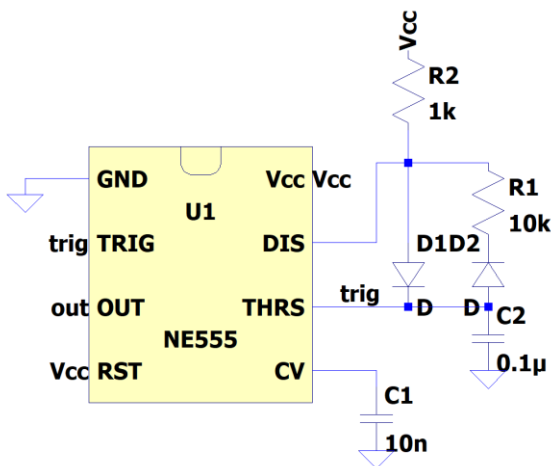
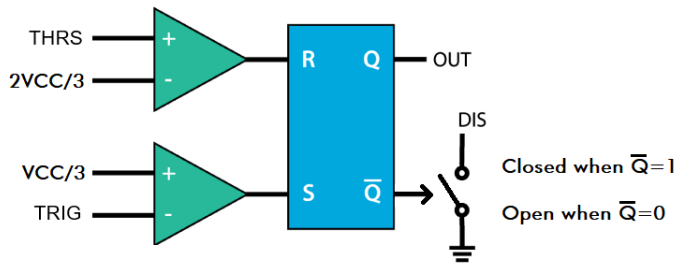
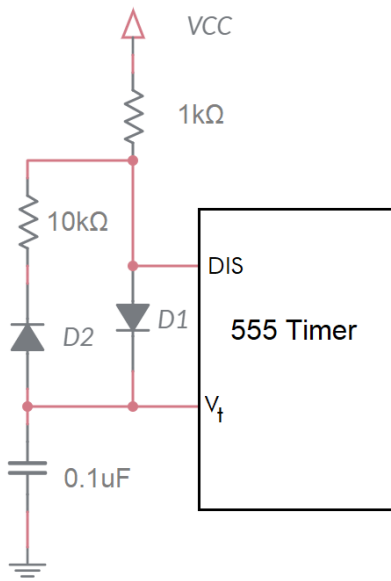
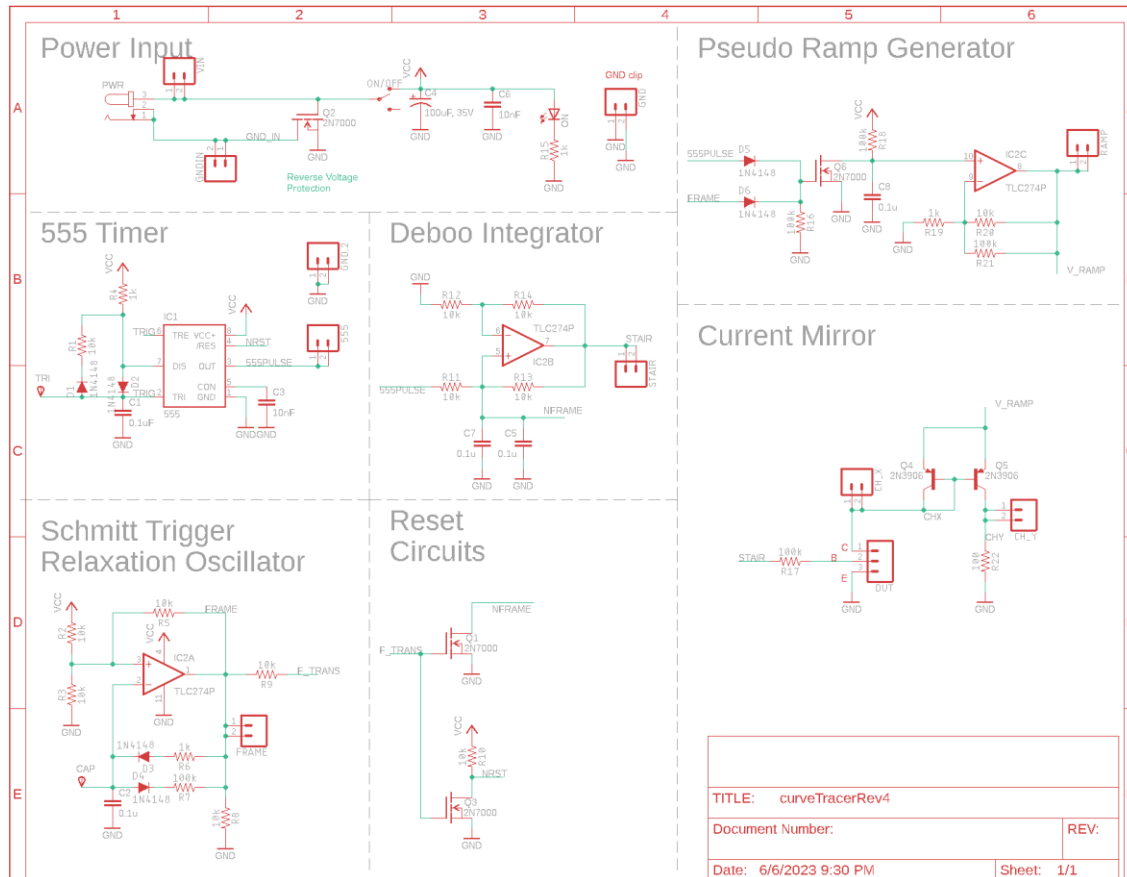

Figure 1: The output of the 555 Timer oscillates with a predictable period and duty cycle. Schematic drawn in LTspice.
Figure 2: A highly simplified rendering of a 555 Timer's internals.
Figure 4: The circuit in Figure 1 with the 555 Timer replaced with the two signals examined in Figure 3.
Figure 8: The schematic for the BJT curve tracer.
We will start by examining the behavior of today's circuit and then use our understanding of the circuit to quantify the behavior of the circuit. The circuit shown Figure 1 is built around the 555 Timer, a chip seen since the early 1970s. Its use is now limited to niche applications; it is not something you are likely to use much in industry. That said, an analysis of the circuit Figure 1 will allow us to practice valuable skills.
In order to analyze the circuit in Figure 1, you first need to understand the internal operation of the 555 Timer chip. A highly simplified view of its internal structure is shown in Figure 2. You will notice some of the pins shown in Figure 1 are not shown in Figure 2. These omitted pins do not affect the behavior of the circuit shown in Figure 1, so to simplify the explanation, they are omitted.
Finally, note that VCC is the system voltage in Figure 1, for simplicity, we will assume throughout the lab that $V_{CC} = 9V$.
Let's start our exploration of Figure 2 by examining the pair of green triangles called comparators. We will call the upper comparator the "R-comparator" because it is connected to the R input of the blue box. Likewise, we will call the lower comparator the "S-comparator". Notice each comparator has a + and - input on its left, and its output on the right. The behavior of a comparator is described by the following two statements.
Use these definitions and the schematic in Figure 2 to answer the following two questions. Assume that $V_{CC} = 9V$, so state your answers in terms of numerical volts, not symbolically in terms of VCC.
Notice the THR and TRI inputs to the 555 Timer are tied together in Figure 1. We will call this common voltage V_t in the following text. Make note of this assignment now. Next, let's look at the blue box in the middle of Figure 2 known as an SR-latch. The input voltages to the SR-latch come from the comparator. When the comparator outputs VCC, the SR-latch interprets this as a logic 1. A comparator output of GND is interpreted by the SR-latch as logic 0.
The last element of Figure 2 is the voltage-controlled switch connected to the $\bar{Q}$ output of the SR-latch. This switch opens and closes under the control of the $\bar{Q}$ signal, hence the arrow head. When $\bar{Q} = 1$, the switch is closed, connecting the DIS pin to ground. When $\bar{Q} = 0$, the switch is open, leaving the DIS pin “floating”, not connected to any voltage. In reality, this voltage-controlled switch is an NPN bipolar junction field effect transistor. However, since we have not studied them, I have replaced it with something more intuitive.
3. Now, let’s summarize our understanding of the components in Figure 2 to complete Figure 3. In this figure, the vertical axis represents the voltage of V_t (the common voltage of the TRI and THR pins in Figure 1). The voltage range of V_t is split into 3 ranges, 9V-6V, 6V-3V, and 3V-0V. For each of these ranges:
With our new understanding of the 555 Timer, let’s return to the circuit shown in Figure 1 so that we can understand the role of the external components in the operation of the circuit. We will approach this question by replacing the 555 Timer with the V_t and DIS signals examined in Figure 3. The resulting circuit, shown in Figure 4, contains resistors, capacitors, a 555 Timer, and D1, D2, diodes. We will study diodes in much more detail later, but for now, consider them as circuit elements allowing current to flow in one direction as indicated by the triangle. So, for example, D1 will only allow current to flow downwards and D2 will only allow current to flow upwards.
Now, you will use the information from Figure 3 to determine to describe what the external circuit in Figure 4 functions like as V_t changes. Complete the sentence or write an expression for each of the bulleted items in questions 4 and 5. When two **bold** choices are separated by a “/”, replace them with the correct answer. Fill in underlines with values.
4. Determine the circuit behavior in Figure 4 when V_t is between 0V-3V.
5. Determine the circuit behavior in Figure 4 when V_t is between 6V-9V.
This week, you will be soldering in the components associated with the POWER INPUT, 555 TIMER subsystems shown in the Figure 8 schematic. It is important you do not solder in any of the other components in any of the other subsystems. This lab document contains cursory coverage of the assembly process. You can find much more detail in the Assembly Guide posted on Canvas.
The POWER INPUT area of the schematic in Figure 8 enables you to supply power to the BJT curve tracer board from either an power jack or through the VIN and GND terminals. A SPDT slide switch allows the user to turn the BJT curve tracer on or off while leaving the power input connected. An indicator LED confirms the BJT curve tracer is powered on when it is illuminated. A pair of capacitors smooths out the power delivered to the BJT curve tracer. Finally, a MOSFET disconnects the power input if you accidentally reverse the positive and negative power leads. You will learn more about this MOSFET in a later lab.
The 555 TIMER subsystem in Figure 8 is identical to the circuit analyzed in in Figure 4.
Most of the parts in this schematic have a designator and a value. The designator is a letter followed by a number. The designator letter tells you what type of part it is, “R” for resistor, “C” for capacitor, etc. The designators on the PCB match those on the schematic in Figure 8. This provides you with a means to find a part. You should take a moment to notice parts which are logically related in the schematic are physically proximal on the PCB.